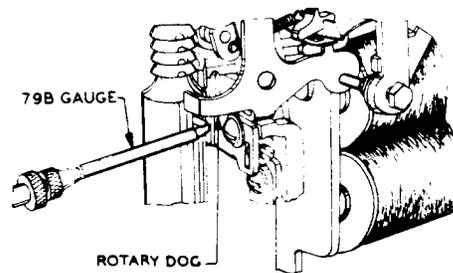

Fig. 13—Method of Measuring Shaft Spring Tension With the 79B Gauge
- (1) Where the 79B gauge is equipped with a stop, set the stop below the minimum value specified so when the indicator is at the minimum value it just clears the stop.
- (2) Step the switch either manually or electrically.
- (3) Holding the gauge with the right hand, apply the tip to the radial face of the tooth just back of the rotary dog at a point below it, as shown in Fig. 13.
- (4) While holding the gauge just above the minimum value, rotate the shaft toward the first rotary position by placing the thumb of the left hand against the right side of the normal pin clamp screw with the index finger on the top of the shaft.
- (5) After the shaft has been rotated slightly (but not sufficiently for the wipers to touch the insulators or bank contacts), remove the left hand from the shaft and note that the shaft restores to rotary normal without the indicator touching the stop.